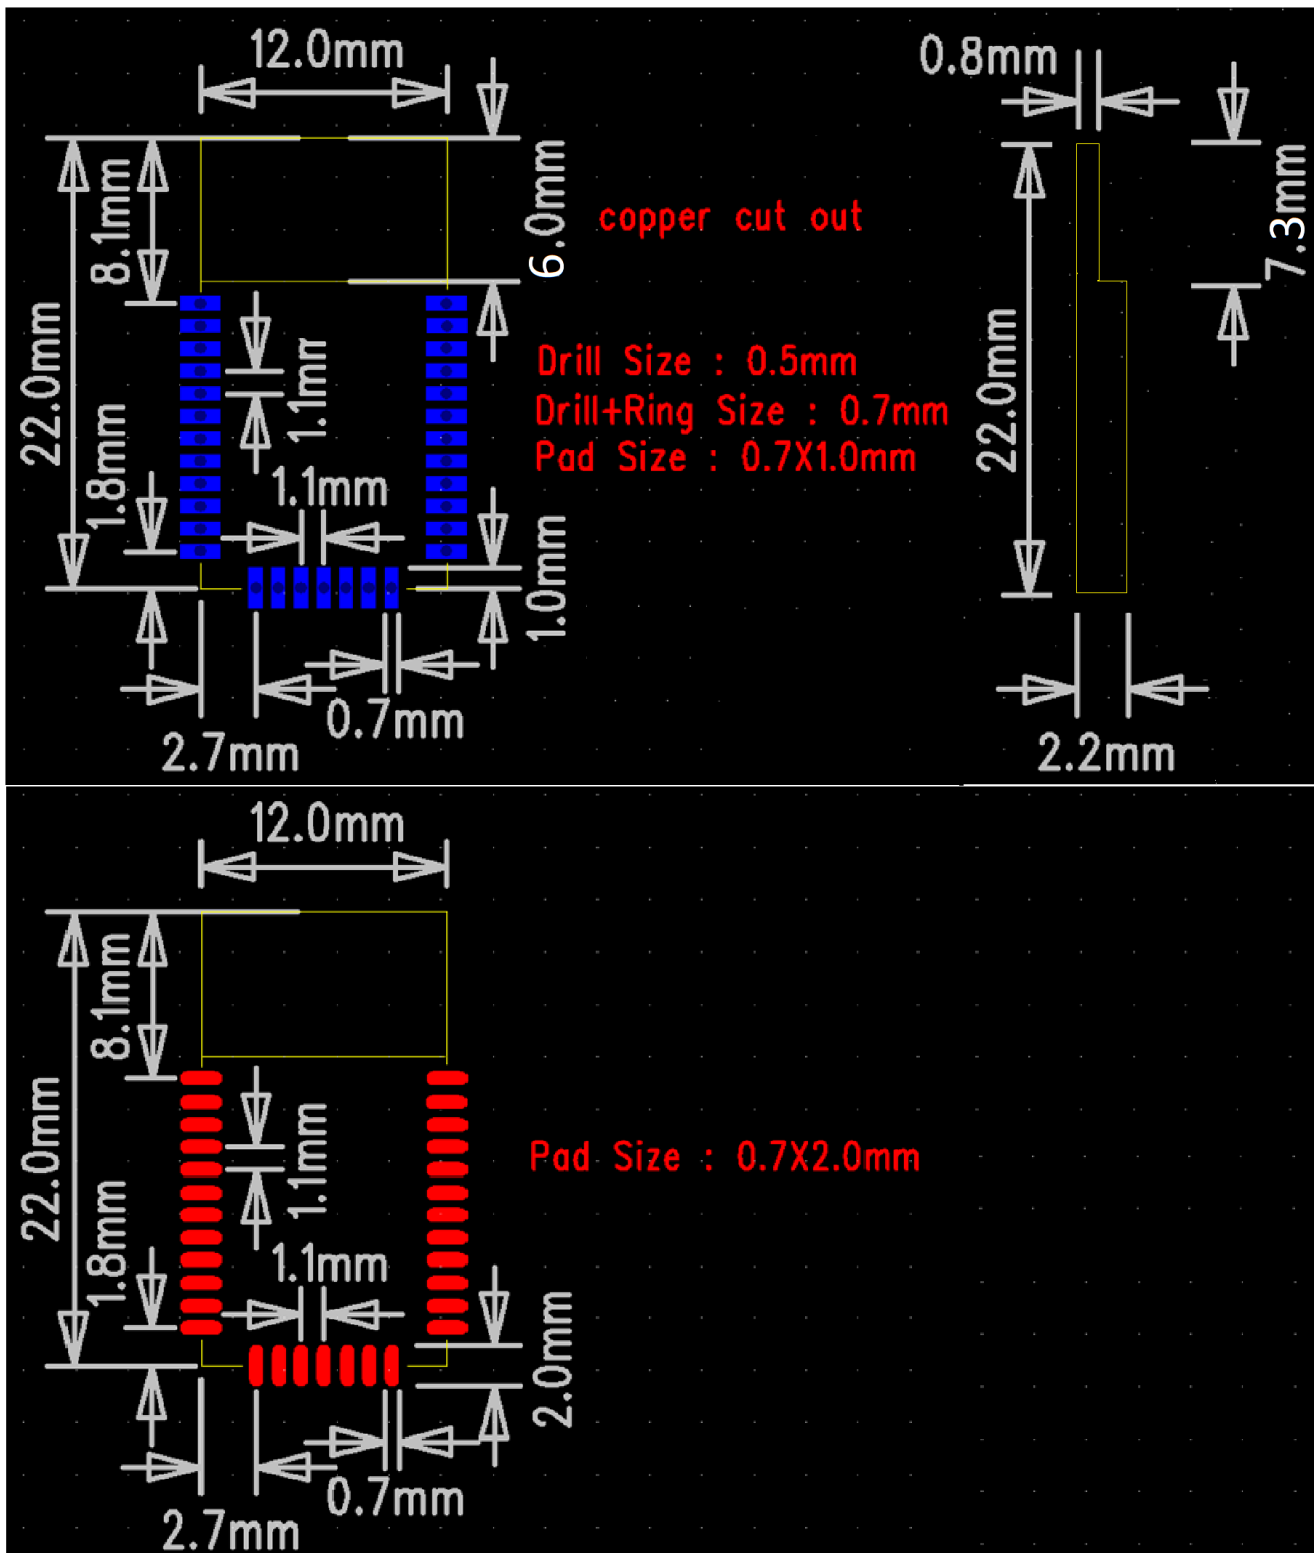

Figure 8: Mechanical Size and Recommended PCB Footprint
1. No ground below antenna region (copper cut out in Figure 8) of the FMB100.